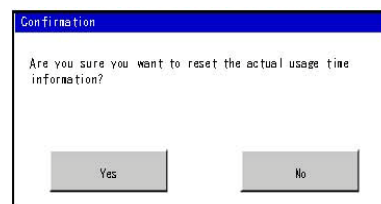

Figure 3-P
- A confirmation dialog box appears (Figure 3-P).